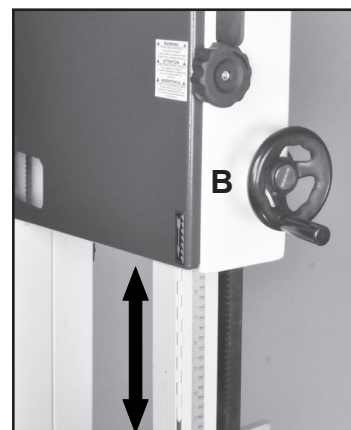
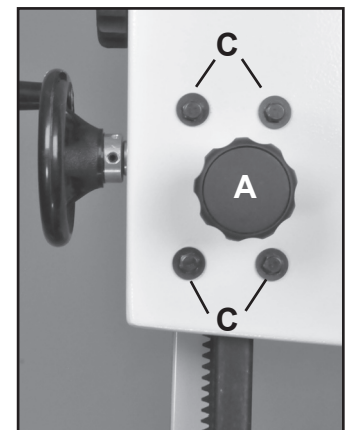

FIGURE 29
FIGURE 30
1. Loosen the Guidepost Lock Knob (A, Fig. 30) and turn the Guidepost Handle (B, Fig. 29) to raise or lower the guide post/upper blade guide assembly to the desired height.
4. Loosen the four Hex Bolts (C, Fig. 30) located at the rear of the top frame. This will allow the guide post to be shifted/angled a bit left or right to correct any positioning issues.